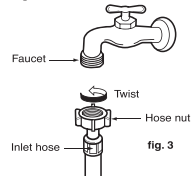

fig. 3
- Twist the hose nut to the faucet as fig. 3.